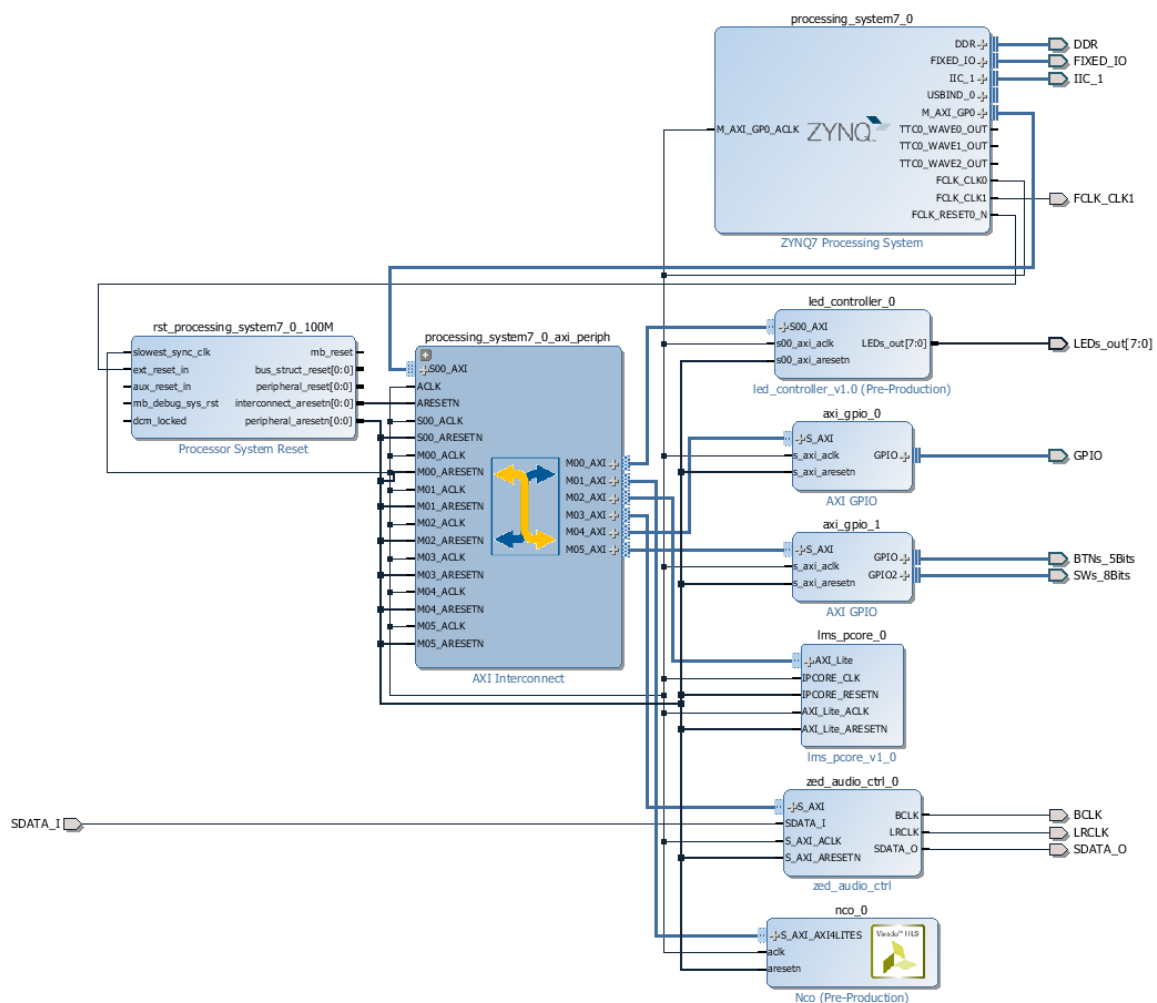

Figure 5.15: Completed block design
- (v) Click the Regenerate Layout button, , to regenerate the layout of the various IP blocks and make the block design easier to follow. Your complete block design should be similar to Figure 5.15.